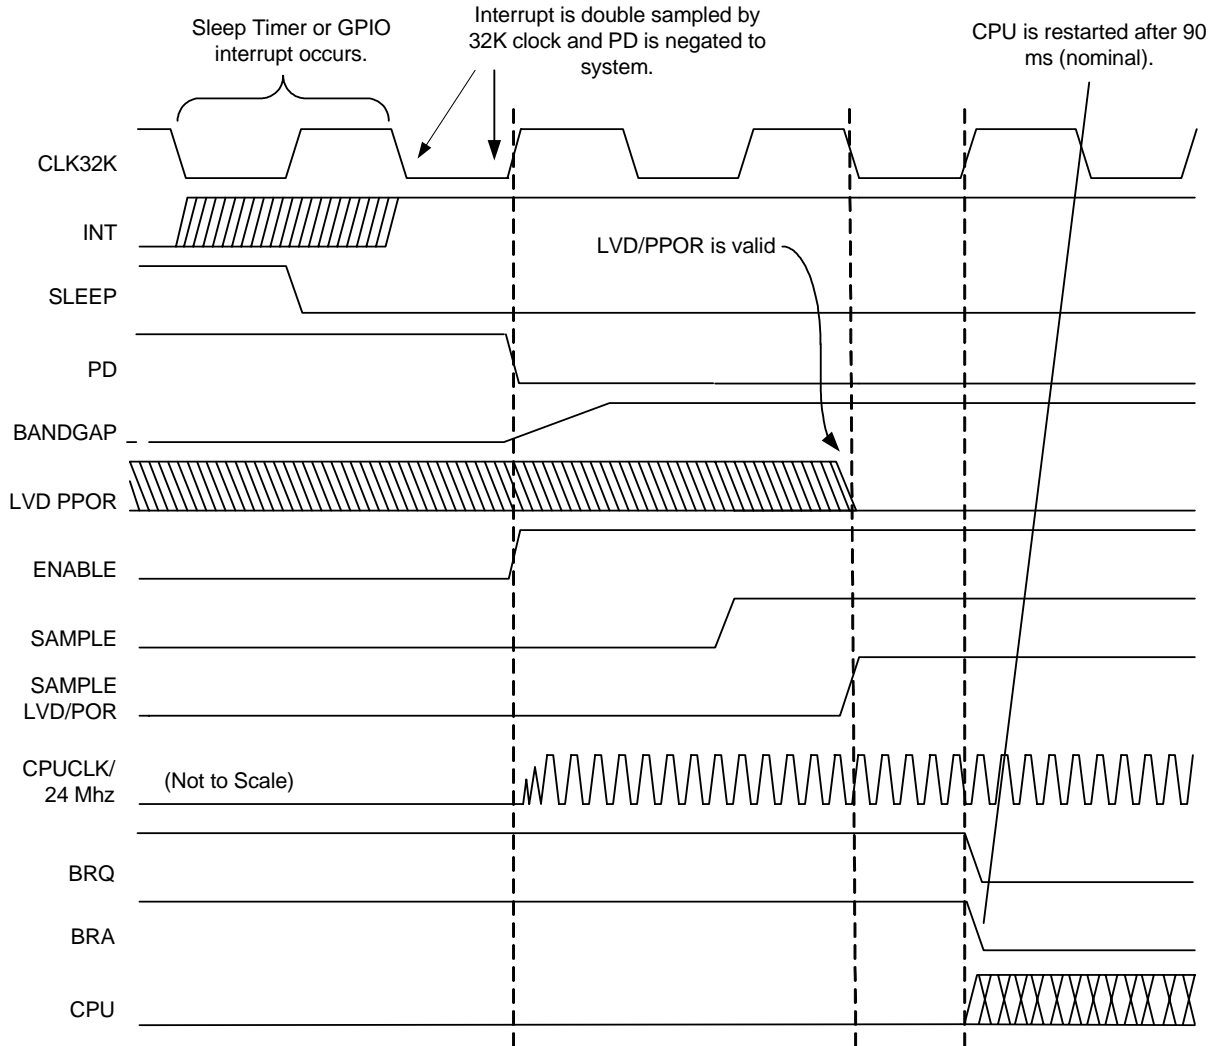

Figure 12-2. Wakeup Sequence
The wake up sequence is synchronized to the 32 kHz clock for purposes of sequencing a startup delay, to allow the Flash memory module enough time to power up before the CPU asserts the first read access. Another reason for the delay is to allow the IMO, Bandgap, and LVD/POR circuits time to settle before actually being used in the system. As shown in Figure 12-2, the wake up sequence is as follows.
4. At the following negative edge of the 32 kHz clock (after about 15  $\mu$ s, nominal), the BRQ signal is negated by the sleep logic circuit. On the following CPUCLK, BRA is negated by the CPU and instruction execution resumes. Note that in Figure 12-2 fixed function clocks, such as Flash, IMO, and bandgap, have about 15  $\mu$ s to start up.